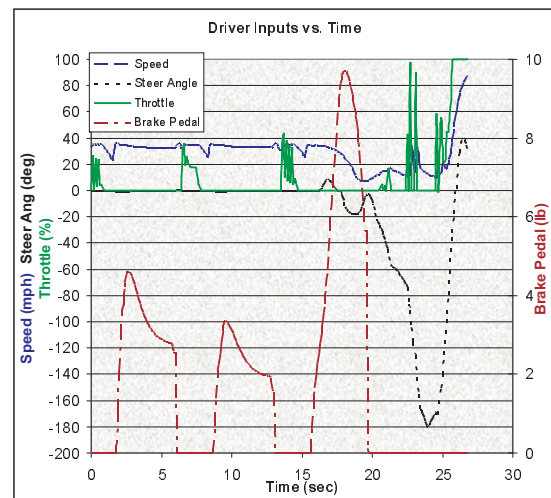

Figure 4 - HVE Driver Model results for Frank Bullitt driving his Mustang down Taylor Street in San Francisco.
- Add a Variable Output table. If your user preference is set, the results displayed in your Key Results window are automatically displayed in the Variable Output table (see Options, Preferences, Copy Key Results to Variable Output checkbox). Otherwise, add the Kinematics Speedometer and Driver Steer Ang, Brake Pedal and Throttle Posn. The speed and simulated driver steering, braking and throttle required to complete the maneuver are shown in Figure 4.